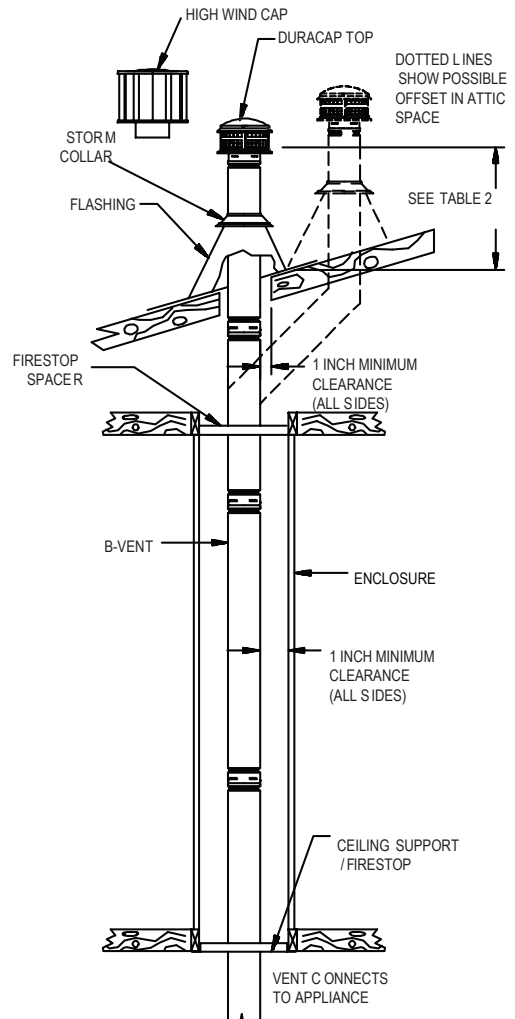
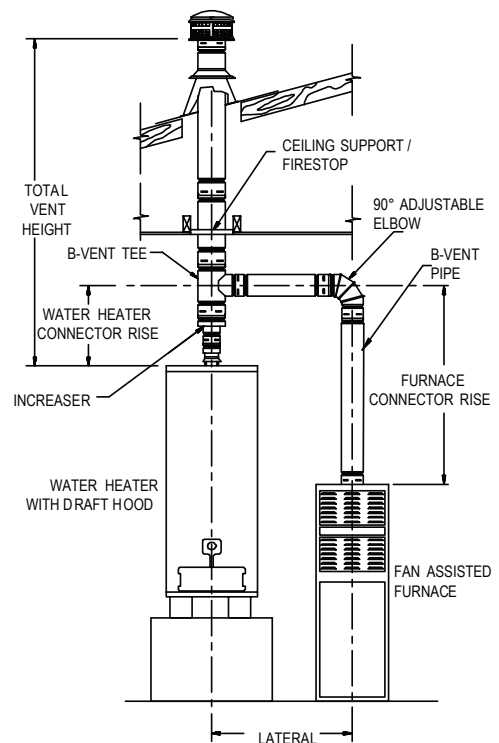
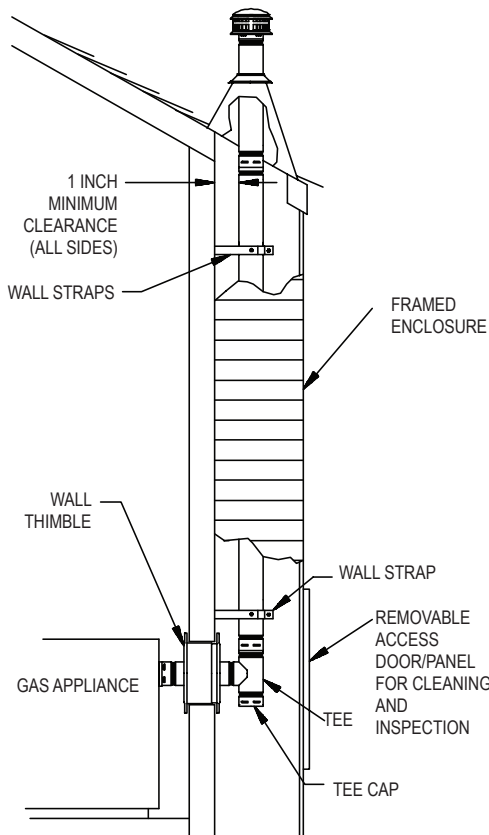

Figure 1
Figure 2
Figure 11
3. Figures 1, 2, & 3 show examples of some typical residential installations.
8. Tees and Wyes. Tees and Wyes are used to combine connectors from 2 or more appliances into a common vent as shown in **Figures 2 and 3**. A Tee should be used in a through-the-wall application, (**Figure 11**), as they have a removable Tee Cap (available as a separate item) attached to the bottom. This Tee Cap may be removed in order to inspect the system, or to clean out debris or collected condensate from the common vent. Wall Straps should be used to support the vertical pipe as needed to provide a secure installation. Wall Straps every four feet are required.
9. Enclosures. Any portion of the vent which passes through an occupied area must be enclosed, to prevent accidental damage to the system, as well as burns. **Figure 1** shows a system which passes through an occupied second floor. DuraVent does not recommend installation of B-Vent Pipe on the outside wall of a building, particularly in cold climates. If it is necessary to do this, enclose the outside portion of the system in a chase, as shown in **Figure 11**. Consult the Local Authority prior to construction. Note that the enclosure requires an access door for inspection and maintenance purposes.